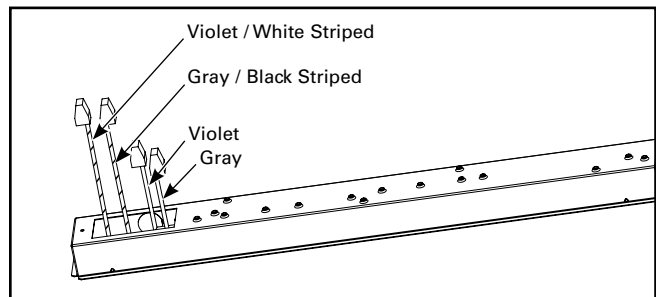

Figure 2.
- 2a. For a fixture without an integrated sensor, locate four control wires with push nuts (violet, gray, violet / white stripe, gray / black stripe). (Figure 2.)
3. Use the supplied push nuts to connect the control input 0-10V dimming violet and gray wires to the corresponding fixture violet and gray wires. (Figure 2.)
4. Use the supplied push nuts to connect the control input 0-10V CCT wires to the corresponding fixture violet/ white stripe and gray/black stripe wires. (Figures 2 and 3.)